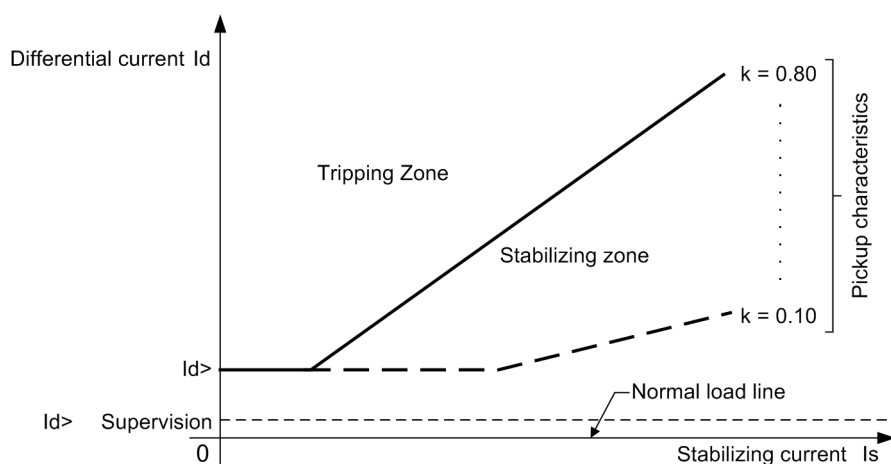

Figure 1-2 Pick-up characteristics of the busbar and breaker failure protection (unbalancing)
- Evaluation of the differential current in conjunction with through-current stabilization (Figure 1-2, page 7)
- Busbar protection with up to 12 bus zones (BZ), 12 bus coupler (auxiliary bus) sections (AB) and up to 48 bay units
- Normal pick-up characteristic (Figure 1-2, page 7)